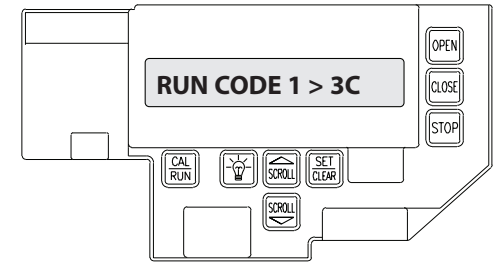

Fig. 6B
The run code memory stores the last 10 error codes in sequence. Once 10 codes are stored, the oldest code is erased to make room for the newest code. These codes are displayed in calibration mode. The display will flash the number of the run code and the 2-digit run code followed by a description of the run code. **Fig. 6B**.
1. Press the CAL/RUN key to enter the Cal Mode (**Fig. 6B**).